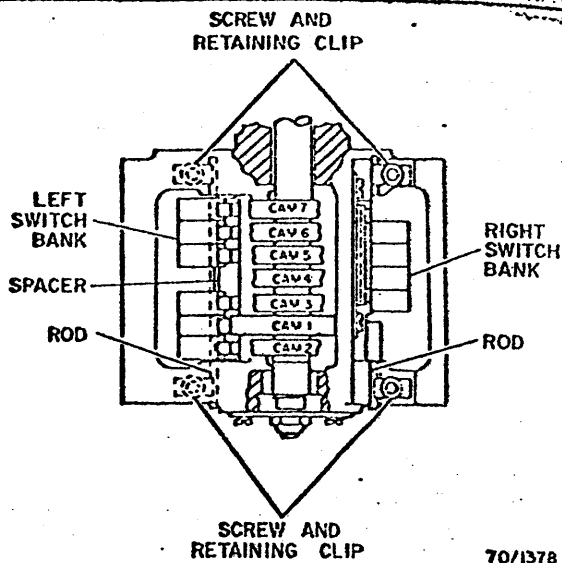

Fig. 3-15. Cycle Switch
1. Loosen the screws on the affected switch bank, and swing the retaining clips aside (Fig. 3-15).